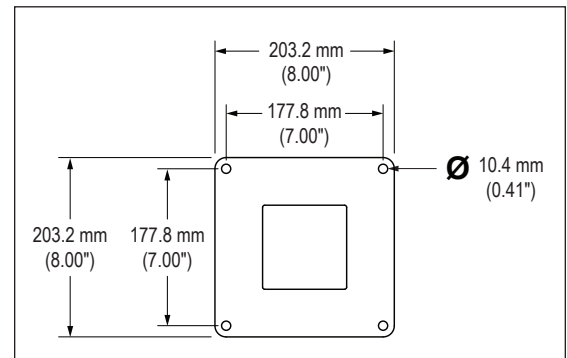

FIGURE 1 – PED4X4 PEDESTAL BASE PLATE
1. For pedestal mount users, prepare the mounting surface for the pedestal installation. The pedestal must be installed using appropriate hardware and methods for your selected mounting surface taking strength, cable routing, and sealing into consideration. Refer to Figure 1 to cut or drill the mounting pattern for the pedestal.